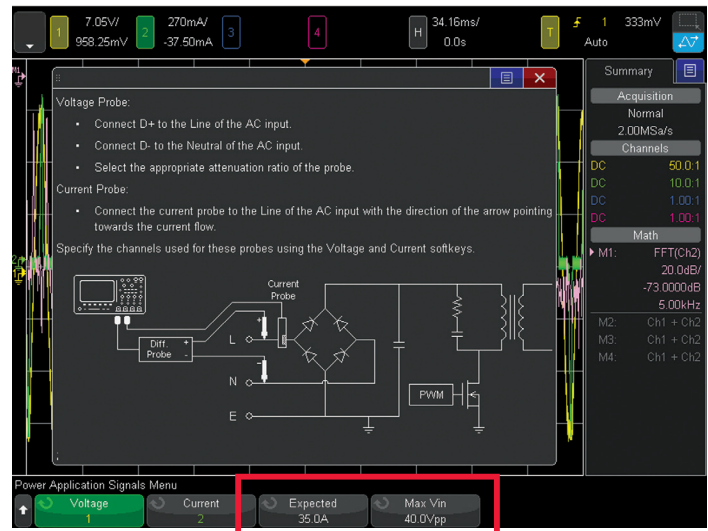

Figure 13. Setting “expected” inrush current and peak-to-peak line voltage for a single-shot inrush current measurement.
4. Press the Signals softkey; then connect the N2790A voltage probe between the scope’s channel-1 input to Line (red lead) and Neutral (back lead) as illustrated in the connections diagram shown in Figure 13. If using Keysight’s SMPS training kit, connect to TP2 (red lead) and TP1 (black lead) on the demo board.